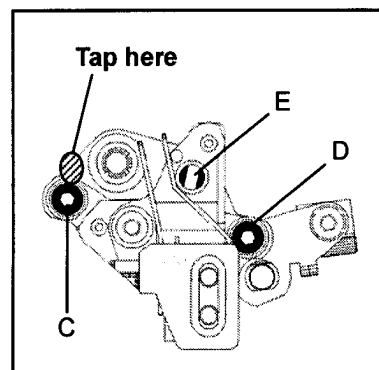

Figure 3-16-3
4. Adjust X-Value so that the reference of HSW matches with the CTL frame lead trigger in the phase (t1). To adjust X-value, loosen the screws (C) and (D), and adjust the hole (E) by using the Eccentric Driver. At this time adjust the phase simultaneously with the Azimuth so that the CTL and CUE phase is kept.
5. After tightening the every screw on the A/C Head, tap the top plate (portion as shown in figure 3-16-3) of A/C Head, then confirm the phase is not shifted.
10. If it is out of specification, repeat the step item 1 to 5. And X-Value displayed in the menu is confirmed again.